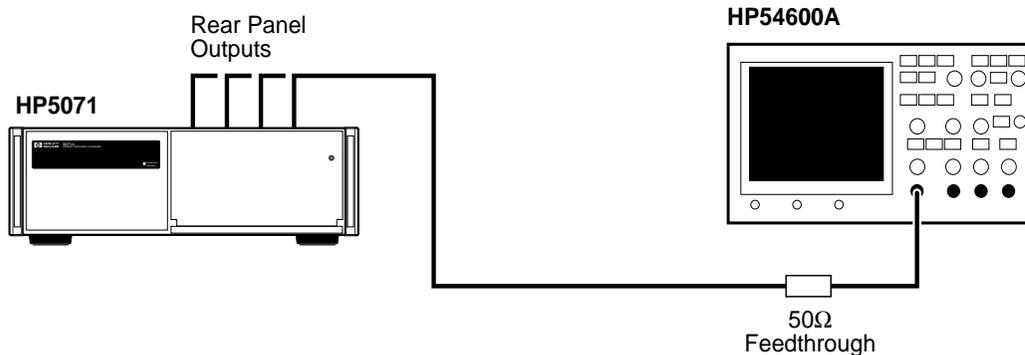

Figure A-1. Rear-Panel Outputs Verification Setup
- 1 Connect one of the 5071A outputs to an input channel of the HP/Agilent 54600A with a 50 Ω feedthrough termination and BNC cable as shown in Figure A-1.